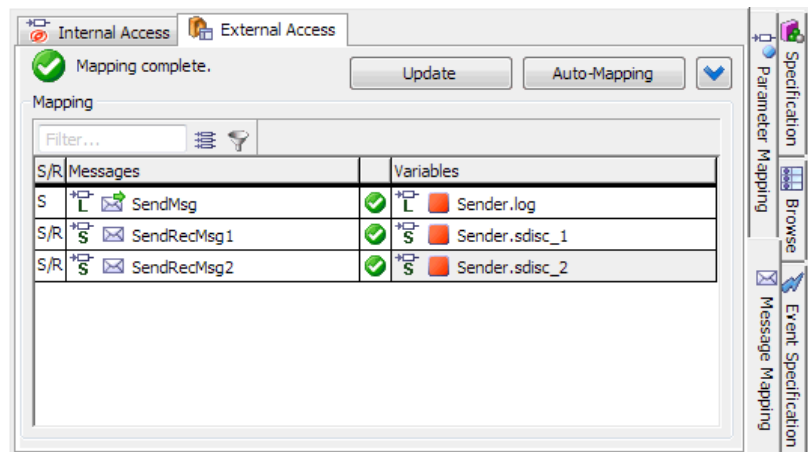

Figure 72: Mapping messages and data elements
- Map the messages to data elements as shown in Figure 72.